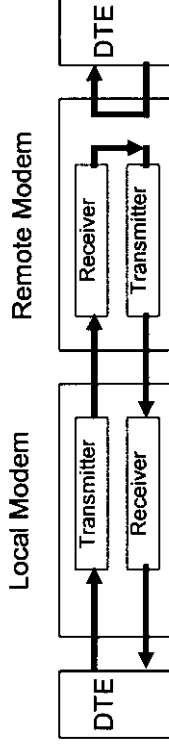

Figure 17. Remote Digital Loopback Test
- **Remote Digital Loopback (RDL) Test** - This test checks the interface and connection of the local modem with its DTE, the interfaces between the local and remote modems, and the local and remote modems themselves (Figure 17). The remote modem returns data received from the line and executes a Local Digital Loopback to the remote DTE.